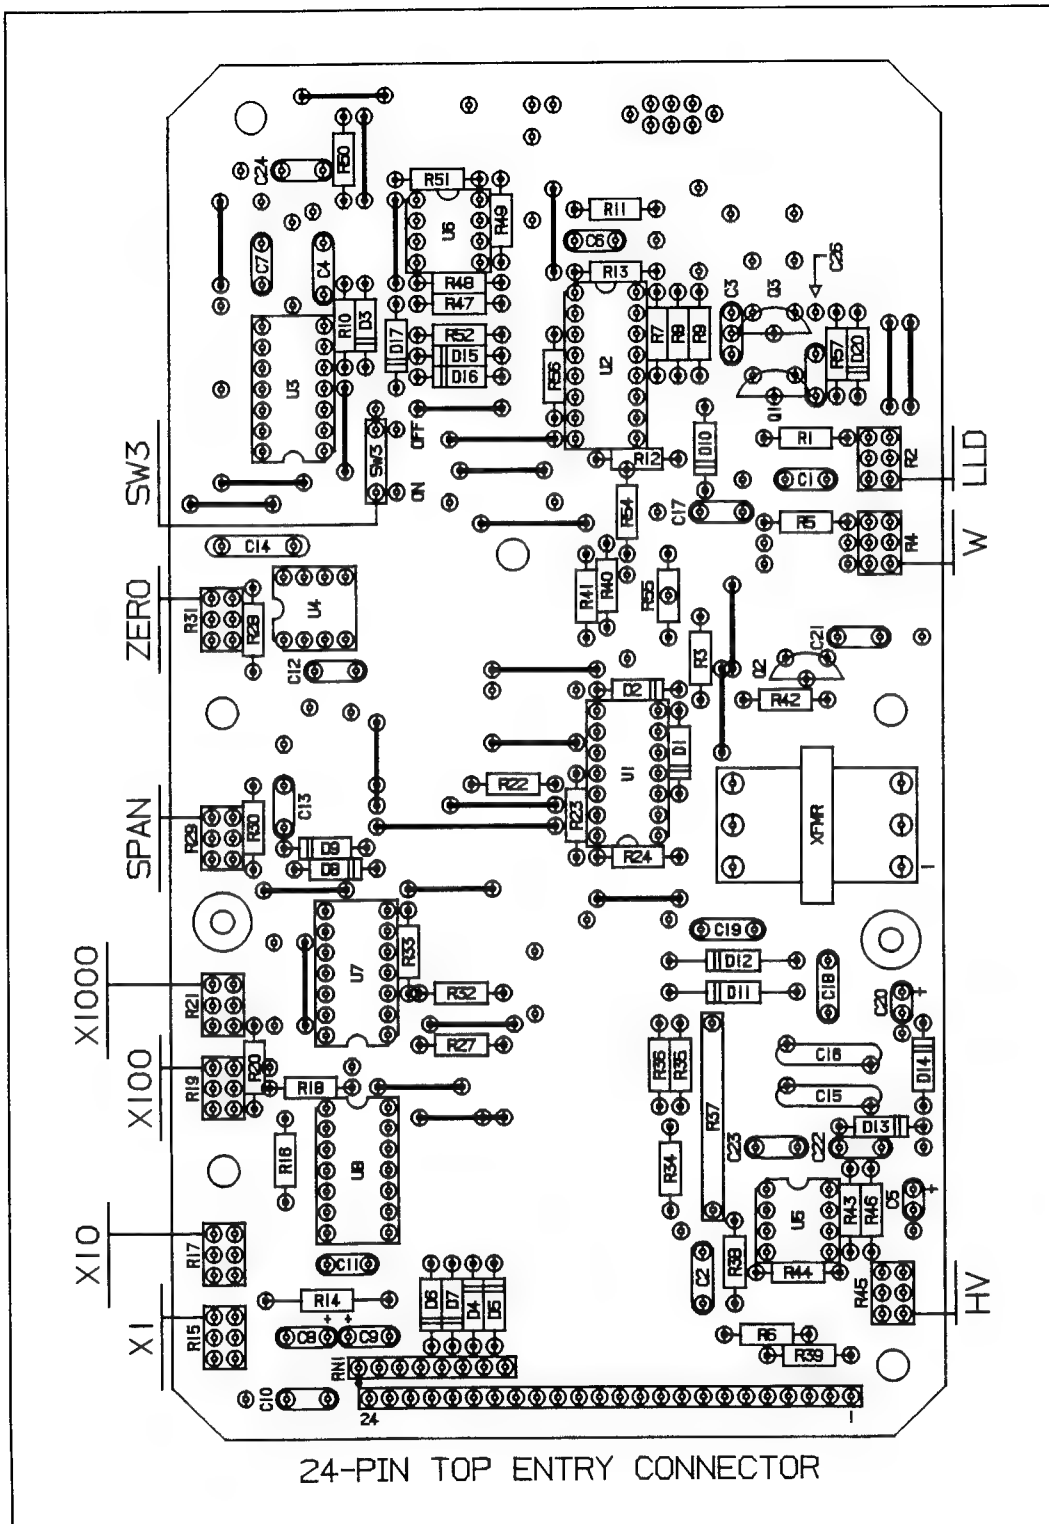

Figure 3
The controls for the high voltage adjustment, the lower-level discriminator setting, and the window width setting are easily accessible, internally mounted trimming potentiometers. Their locations are indicated on a label in the case bottom and in Figure 3.
Turning the control ("LLD" on Figure 3) clockwise raises the discrimination level (i.e., raises the low-energy cutoff), while turning it counterclockwise lowers this level. *NOTE: Do not turn the control too far counter-clockwise or electronic noise will be counted by the system.*
The standard (factory) width is 300 mV, which gives an upper-level discriminator setting of 350 millivolts. Turning the control ("W" on Figure 3) clockwise widens the window; turning it counterclockwise narrows it. To set the SCA window width, proceed according to the following steps.
Clockwise rotation of this control ("HV" on Figure 3) increases the high voltage, while counterclockwise rotation decreases it. It may take a few seconds for the high voltage to decrease following a counter-clockwise adjustment.
3. Set the high voltage control ("HV" on Figure 3) fully counterclockwise.